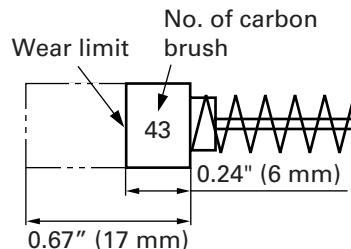

Fig. 23
4. Inspecting the carbon brushes (Fig. 23)
NOTE: Use HITACHI carbon brush No. 43 indicated in Fig. 23.